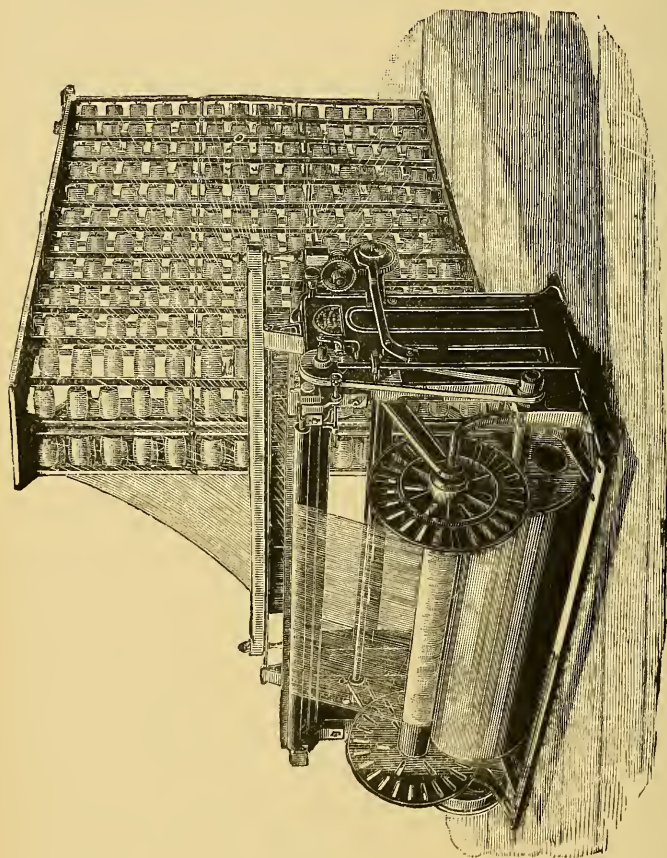

Fig. 48.—Beam Warping Machine.
**Beam Warping.**—This system of warping gives good results. The machine shown in the illustration (Fig. 48) has an automatic stop motion. The operation of warping on these machines is very simple. The necessary length is indicated by a dial method of calculating. Let us suppose a warp of 3000 threads is required; the hanks, sized and wound on bobbins, are placed in the creel; taking then 6 beams to complete the warp, 500 bobbins will be placed in the creel—*i.e.*,  $3000 \div 6 = 500$ . The dial being set for the length ordered, one-sixth of the warp is completed, the lease taken and the beam removed. Six beams are thus filled and removed to a frame, where they are placed in rotation—one slightly above the other—and weighted. This frame has a measuring roller, and a marker tipped with dye stuff, for the division of the warp into cuts. All these beam warps pass through an expanding reed, and are wound on to the beam for the loom. Many thousands of yards of warp material can be beamed in a day by this very economical process.